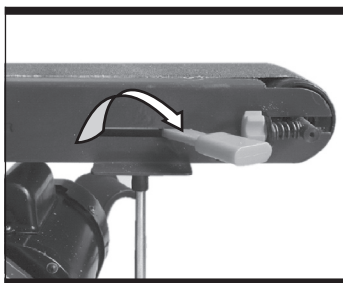
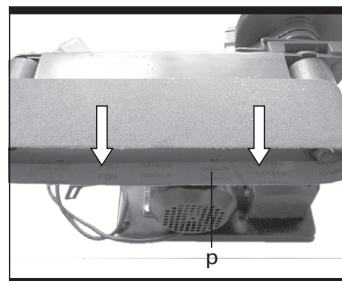

Fig 19-1
Fig 19-6
• Replacing sanding belt (see Fig 19-1 - Fig 19-6)
- 1) Pull the belt tension lever (7) from left to right to release the belt tension. (Fig 19-1)
- 6) Pull out the old belt and replace a new one. (Fig 19-6)